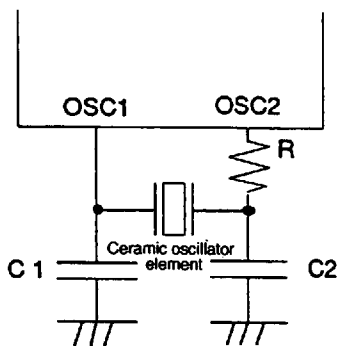

Figure 2 Ceramic Oscillator Circuit
- Note: 1. When driven internally using the oscillator circuit shown in Figure 2 with guaranteed constants, values up to the amplitude of the generated oscillation are allowed.